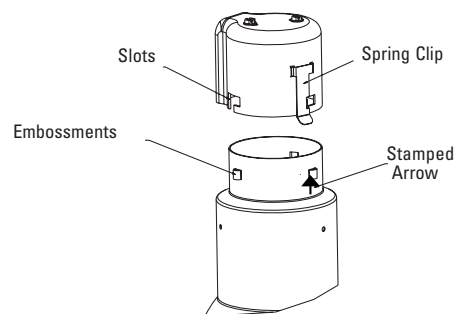

Figure 2
3. Attach socket cup to top of inner reflector by aligning spring clip on socket cup with alignment arrow on inner reflector (see Figure 2).
5. Twist socket cup clockwise until spring clip locks into place (see Figure 2).